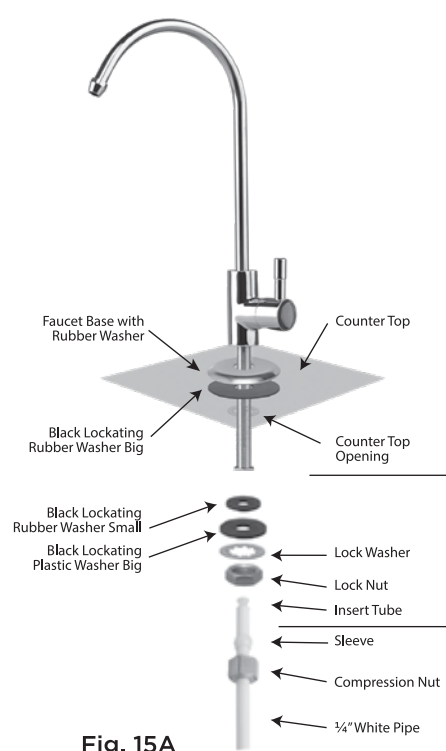

Fig. 15A
1. Insert faucet base with rubber washer & rubber washer big into the threaded part of faucet then insert faucet along with two washer into the hole **FROM TOP**. Now insert the rubber washer small, plastic washer, lock washer & lock nut **FROM BOTTOM** into the threaded part of faucet in the order shown as **Fig 15A**.